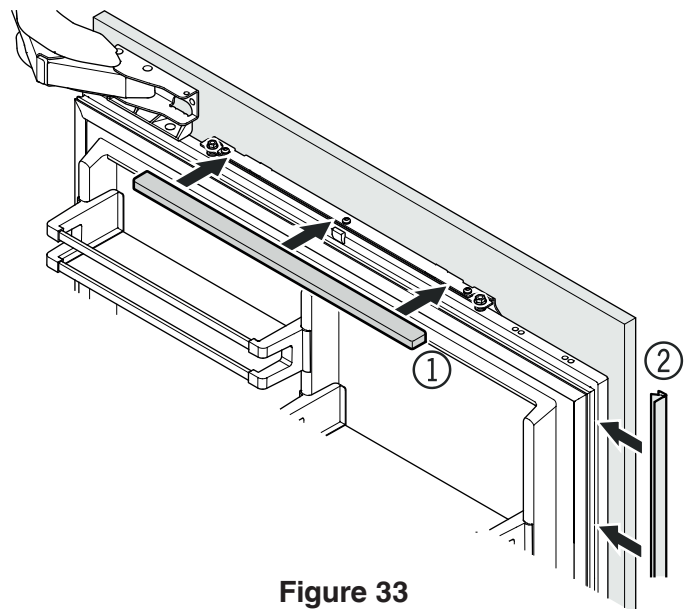

Figure 33
11. Click cover (1) into place. Insert the cover strip provided (2) between refrigerator door and panel (Figure 33).